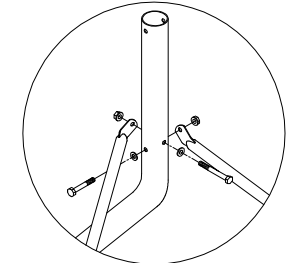
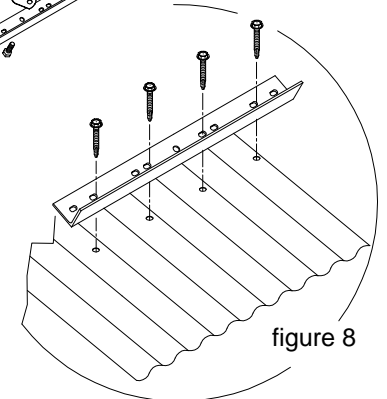

figure 9
figure 8
STEP 5: Affix 2 cleat brackets to roof (see fig 8). Drill the holes in the roof cladding to suit the mounting screws or bolts and assemble the cleat bracket ensuring to place the M10x30 bolt thru the Ø10 hole before affixing to roof (see figs 7 & 8). Take particular care to liberally apply sealant to the screw/bolt holes under the cleat brackets. For assembling the 90° brace as shown in figure 3, see figure 9.